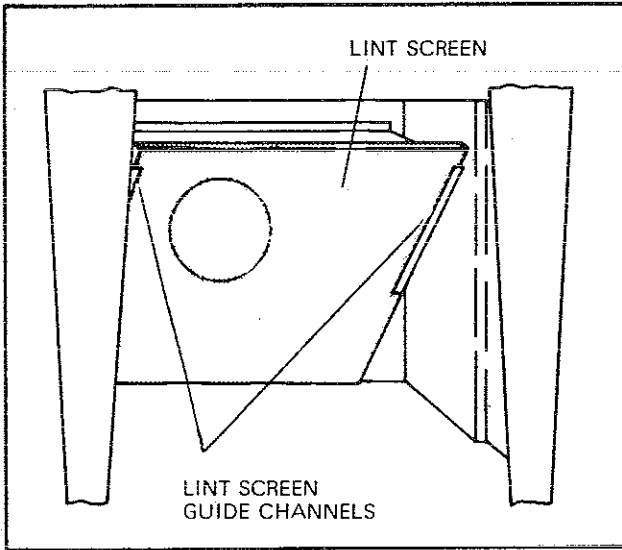

Figure 3-2. Lint Screen
2. Slide lint screen up and out of screen guide angles (Refer figure 3-2).